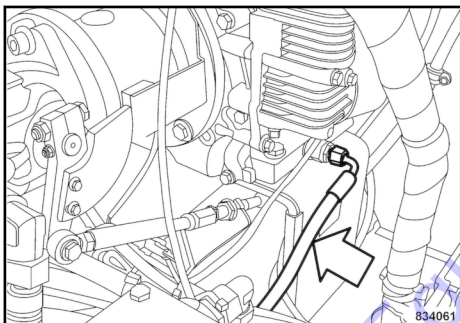

Fig. 170
1. Place the drain hose ↪ Fig. 170 into the collecting container and open the drain plug. Catch running out oil.